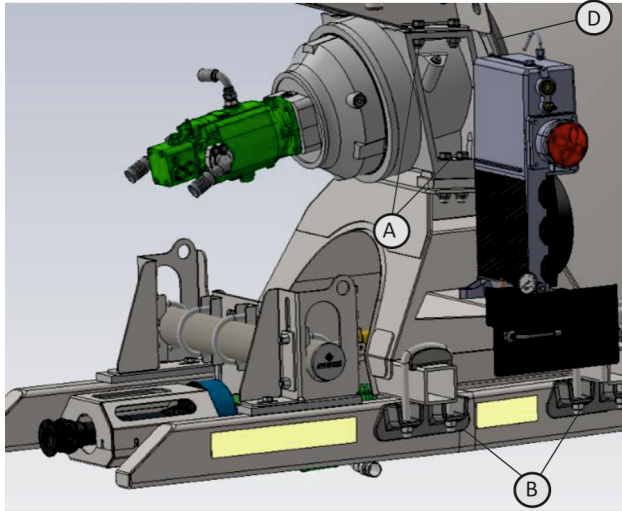

Figure 7 - Squeeze Points
- Every 1000 hours, the bolt connections (Figure 7) are checked and tightened to the values shown in Table 6.